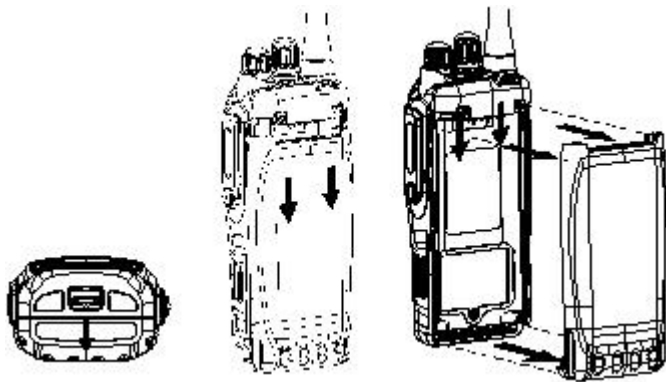

Figure 2
3. Slide down the battery for about 1 to 2 centimeters, and then remove the battery from the radio's body. See figure 2.